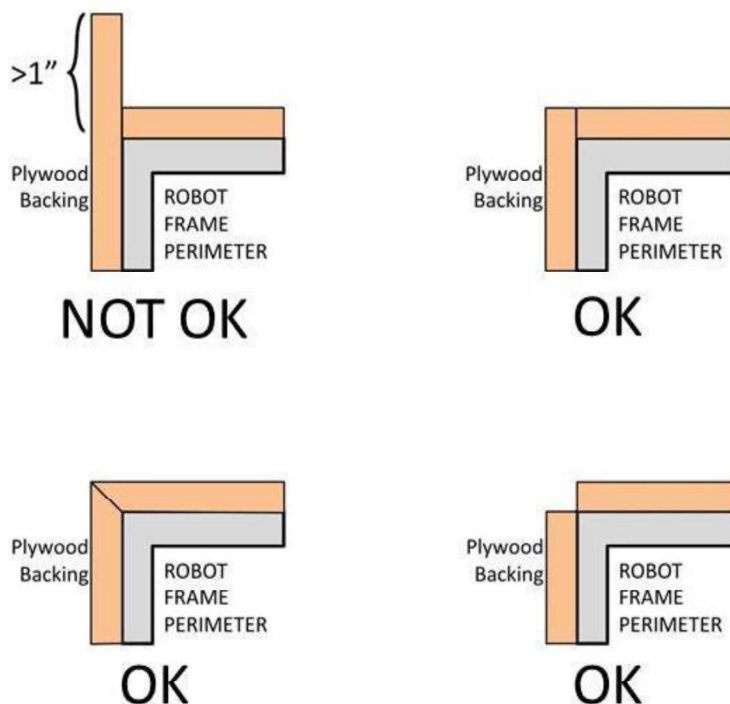

Figure 9-4 Hard Parts of BUMPER Corners
- B.** hard BUMPER parts allowed per R24-A, -E, -F, and -G must not extend more than 1 in. (~25 mm) beyond the FRAME PERIMETER (measured as shown in Figure 9-4).